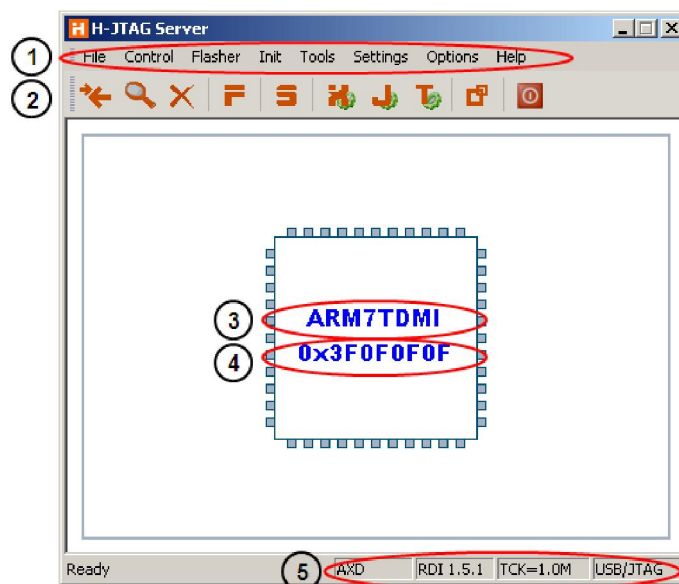

Fig 2-7 Main window of H-Jtag
The main window of H-Jtag is shown in Fig 2-7. In the figure, (1) is the menu bar, (2) is the toolbar, (3) is the detected ARM core, (4) is the device ID and (5) shows the connected debugger, RDI version, TCK speed and hardware interface.